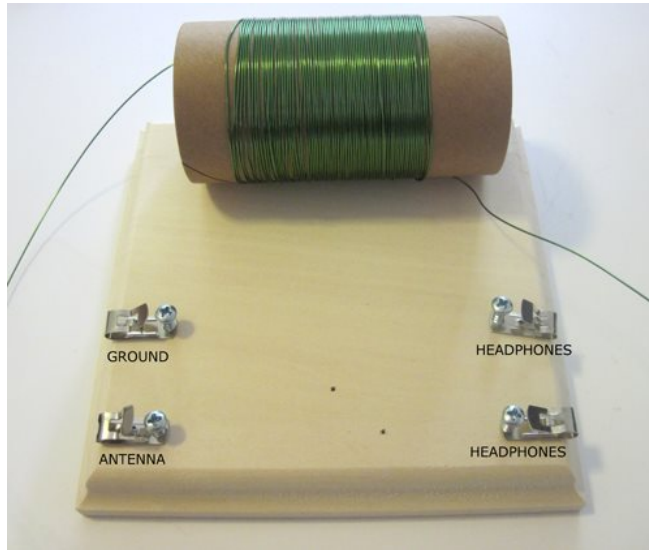

Figure 7. Attach the Fahnestock clips and the labels to the wooden mounting board.
- a. Loosely mount the four Fahnestock clips to the wooden base using four #6 x 1/2 inch screws, as shown in Figure 7. Do not tighten the screws all the way yet.
- b. Use scissors to cut apart the "ANTENNA," "GROUND," and two "HEADPHONE" labels. Peel off the adhesive backing and place them on the board, as shown in Figure 7.